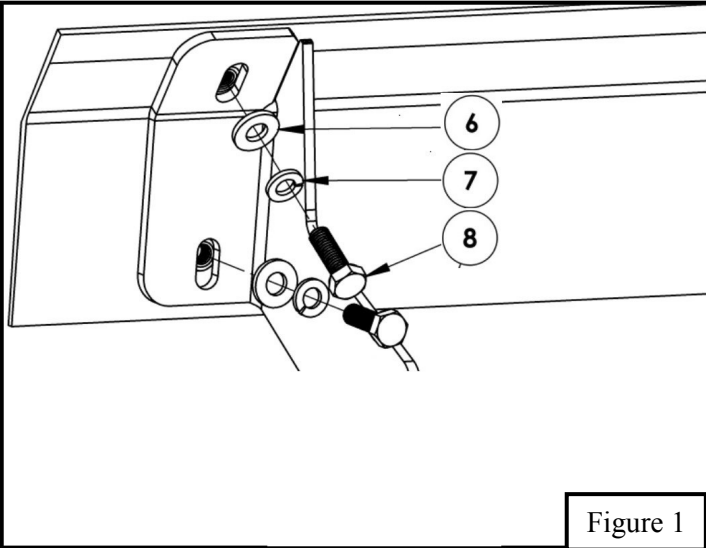

Figure 1
2. Start installation on either side of the vehicle. Locate mounting locations with factory threaded holes with screws or caps installed in them. Remove factory screws or caps from threaded holes, factory screws will not be used again. Locate (1) Front Mounting Bracket and loosely install it to the front mounting location on the rocker panel using (2) M8 hex head cap screw, (2) M8 split lock washer, and (2) M8 flat washer (Items 6-8). Locate the Center/Rear Mounting bracket (Items 3 & 4) and loosely secure in the correct mounting locations on the rocker panel. Loosely install using the provided M8 hardware (Items 6-8). **See Figure 1.** (NOTE: See page 3 for bracket orientation)